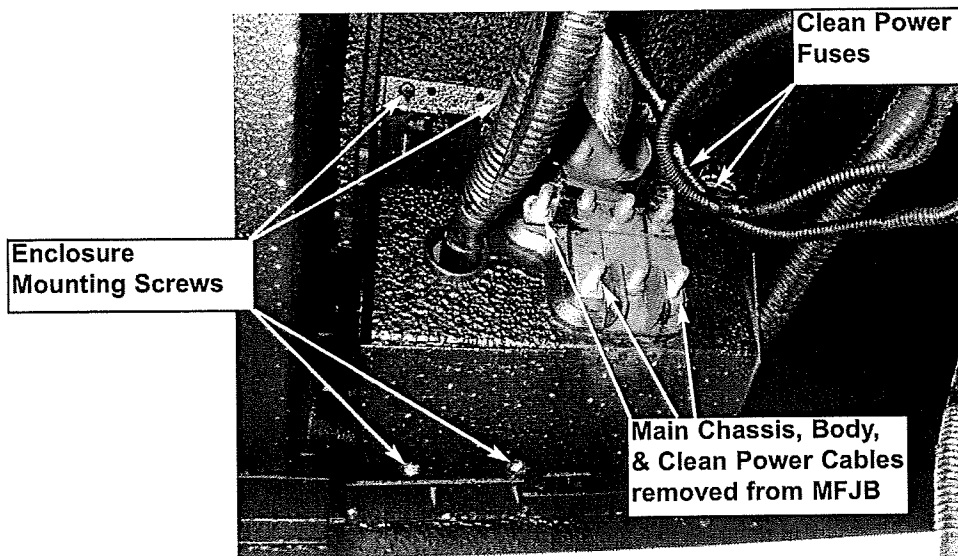

Figure 3
8. Remove the four (4) screws securing the enclosure to the mounting bracket. Support the enclosure while lowering it to gain access to the front. **Figure 3**